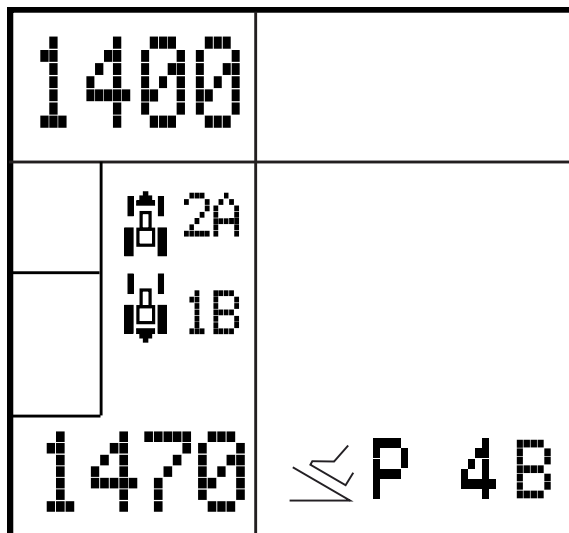

Fig. 11.
The maximum forward speed setting is set using the potentiometer SV2 (B) *fig. 11*:
It is also possible to set the maximum engine speed to between 1400 rpm and 2160 rpm using the SV1 potentiometer (A) *fig. 11*.